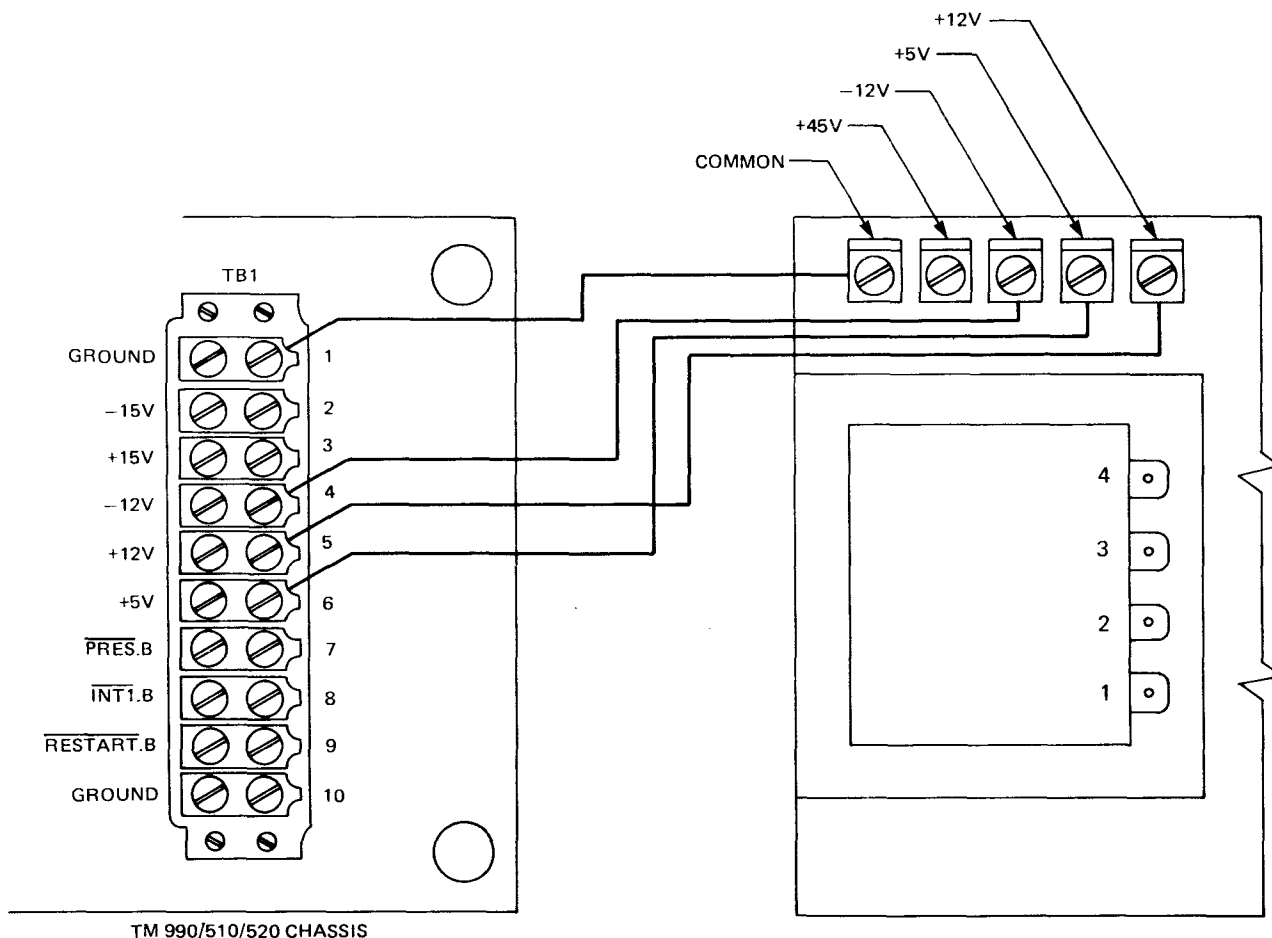

FIGURE 4. OUTPUT CONNECTED TO TM 990/510/520 CHASSIS
2. Do not attach output voltages to equipment before checking output voltages between output terminal taps and the common output tap. Voltages should be ± 3 percent for all voltages except 45 Vdc which is ± 15 percent. Voltages are shown in Figure 4 and on the back of the power supply chassis.
After checking connections and output voltages, remove power. Attach output voltages as shown in Figure 4 (this figure shows connections for a TM